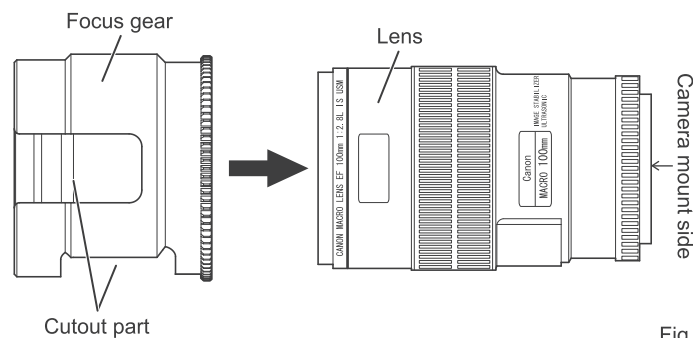
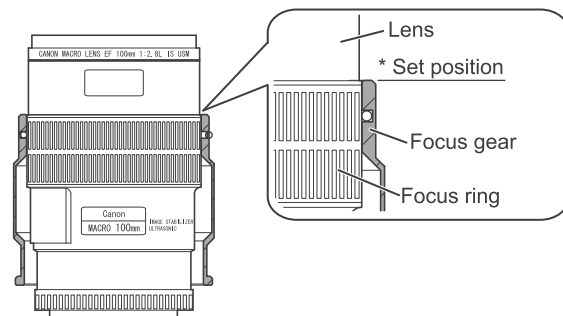

Fig.1
Fig.2
- 2 Place the focus gear (this product) straight onto the lens from the glass side of the lens (Fig.1), and shift the focus gear until the end of the gear comes to be in the same position as the end of the focus ring on the lens to attach the focus gear (Fig.2)**